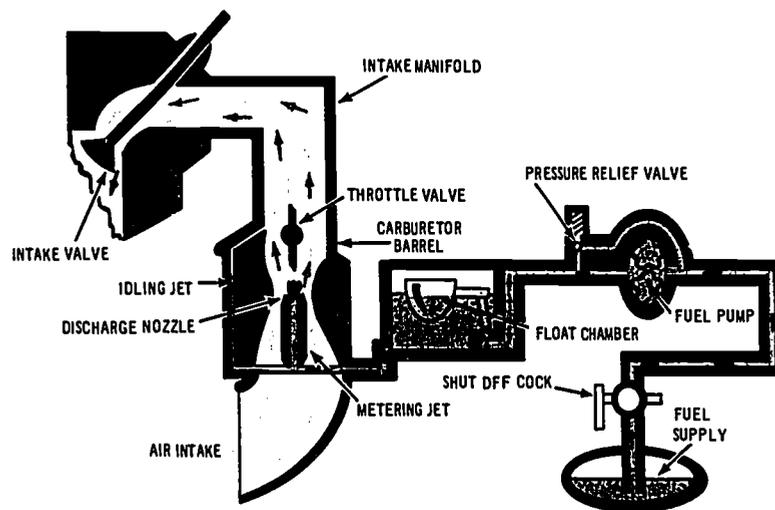

Figure 13. The Simple Float Carburetor.
(2) a main metering jet, (3) a discharge tube and nozzle, (4) a carburetor barrel, and (5) a throttle valve. (Fig. 13)